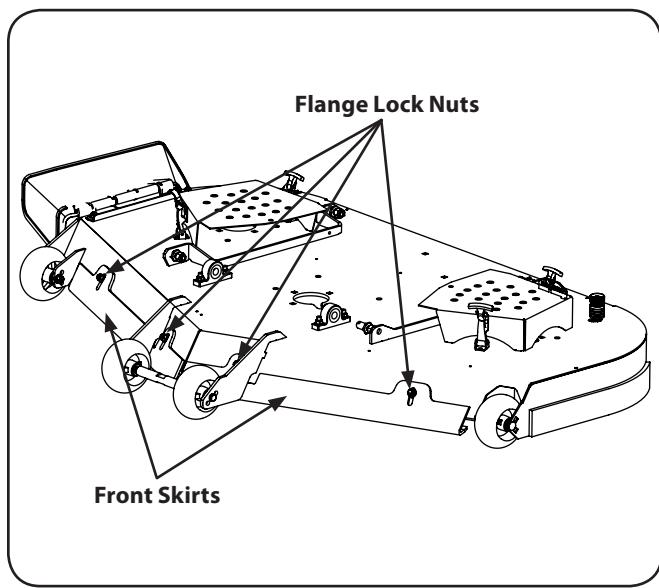

Figure 6-11
1. Loosen — but do not remove — the nuts securing the skirt, place it in the proper position and then retighten the nut. See Fig. 6-11.